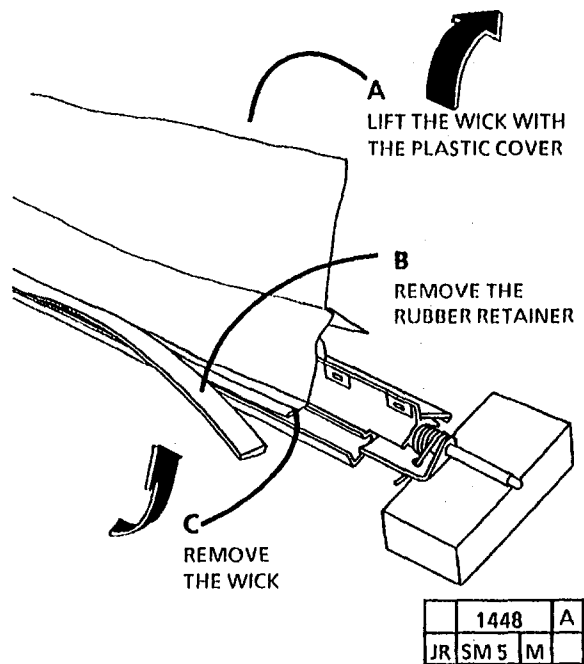

Figure 2. Remove the Wick
4. (Figure 2): Remove the wick.